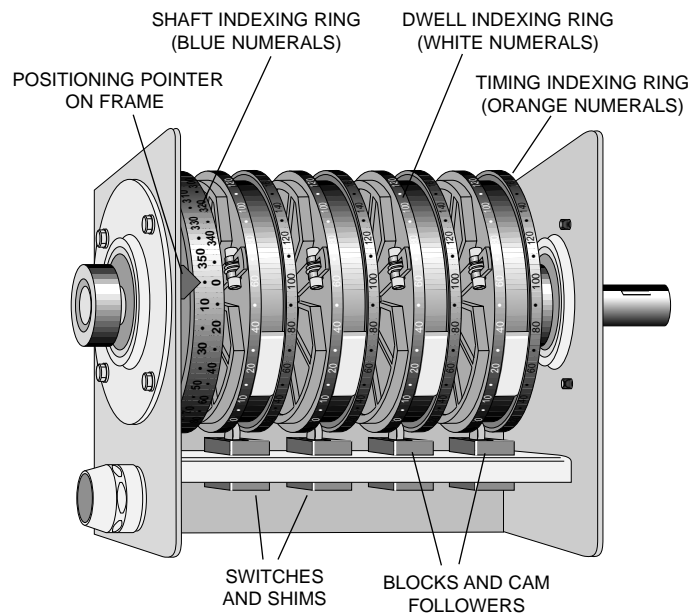

Figure 1. Internal Switch Mechanism
3. Position shaft at "0" by aligning "0" on the shaft indexing ring (BLUE numerals) with the pointer on the frame (Fig 1).